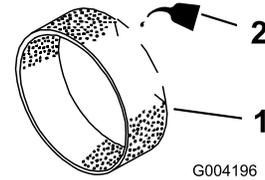

Figure 18
3. Put one or two ounces (29.6 or 59.1 ml) of oil on the pre-filter (Figure 18).